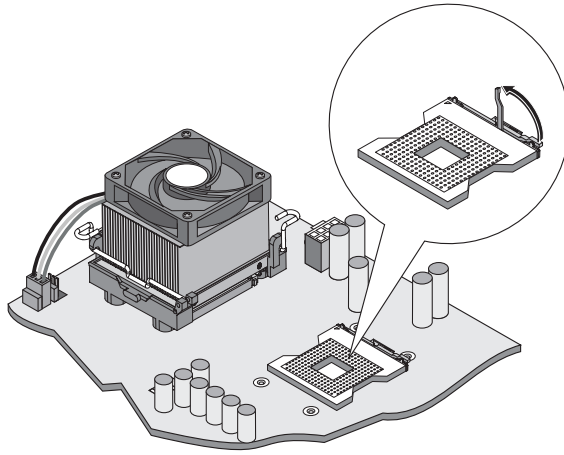

Figure 2-15: Opening the ZIF lever
4. Open the ZIF lever to allow removal of the processor. Refer to Figure 2-15.